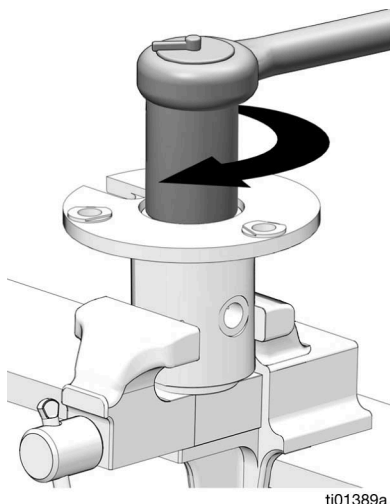

FIG. 20
- Use a 2 in. socket to reinstall the throat seal retainer nut (19) and tighten, torque to 150 - 165 ft-lb (203.4 to 223.7 N•m) (FIG. 20).